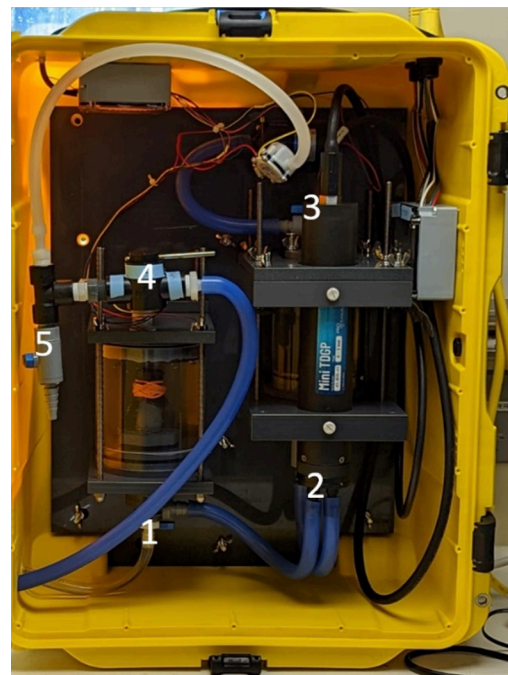

FIGURE S3: Valve positions.
1. Check that valves 1 to 3 are open (handles parallel to water flow), valve 4 is set to all open, and valve 5 is closed (handle perpendicular to water flow) (Figure S3).